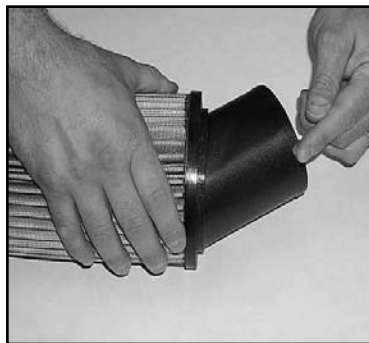

Fig. 2
4. Using the supplied tube of grease, apply a small amount around the outside end of the flange on the K&N FILTERCHARGER. This is to help make it easier to insert the flange into the air intake tube. (Fig 2)